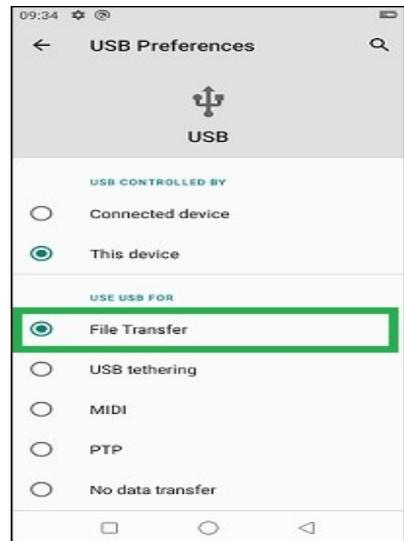

Figure 37 - USB connection settings
5. Click on File Transfer, Figure 37;